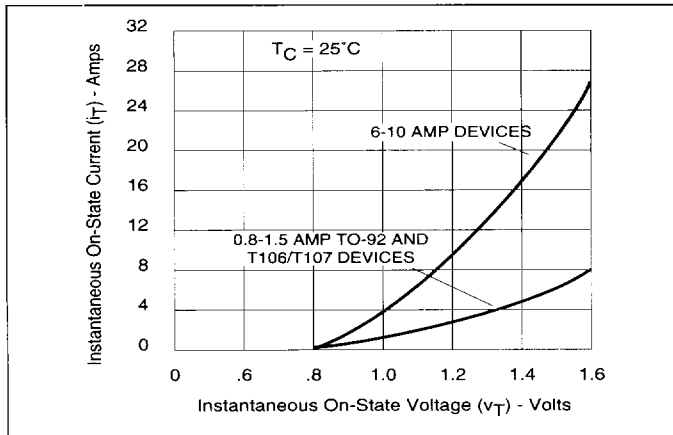

Figure 5.11 Instantaneous On-State Current vs On-State Voltage (Typical)
- See Figure 5.11 for instantaneous on-state current (I_T) vs on-state voltage (v_T) - (typical).